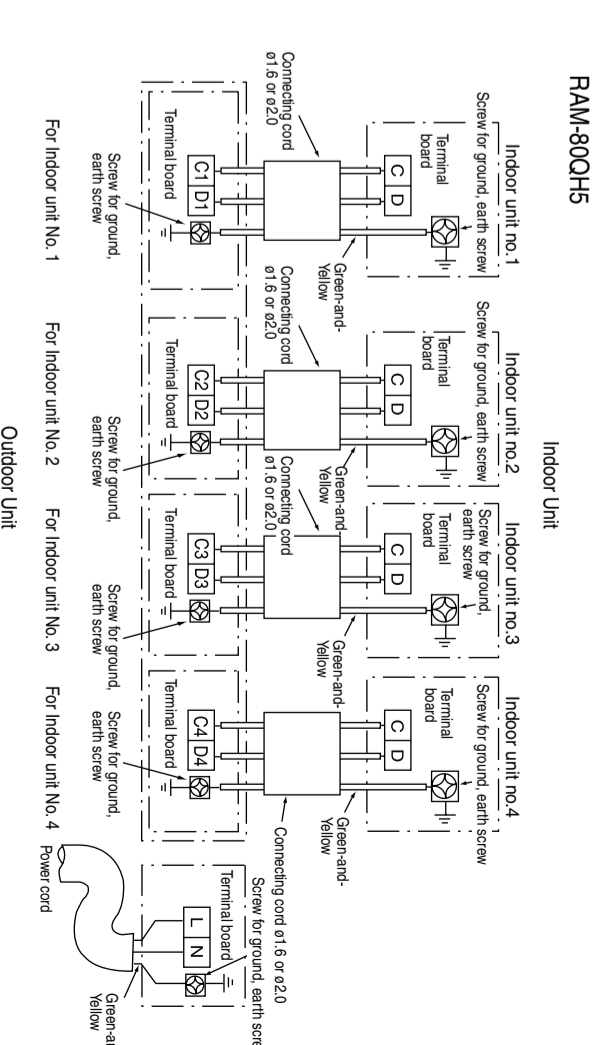

Fig. 3-1
- (1) Connect the electrical wiring between the Indoor and Outdoor unit, as shown in Fig. 3-1. Never connect the wiring by mistake.
- (2) The connecting cord must be fixed by the band which is located near the terminal board.
- Connecting cord should be connected according to Fig. 3-1, that the indoor unit No. agree with terminal board No. of Outdoor unit.